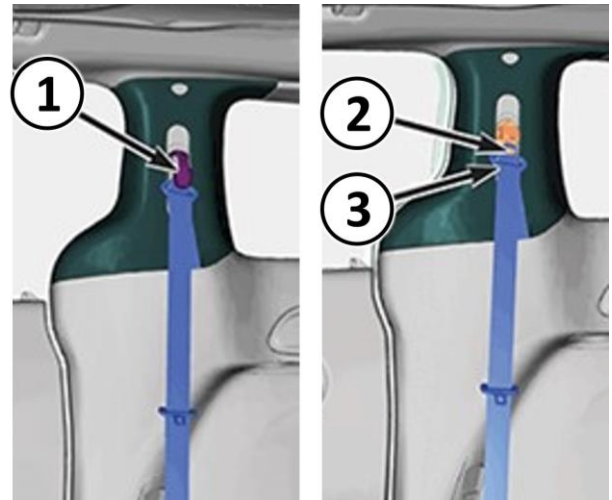

Figure 12 – C-Pillar Seat Belt
27. Move the seat belt height adjuster to the lowest position (Figure 12).
28. Using a trim stick or equivalent, remove the bolt cover (Figure 12).
29. Remove the seat belt turning loop nut (Figure 12).